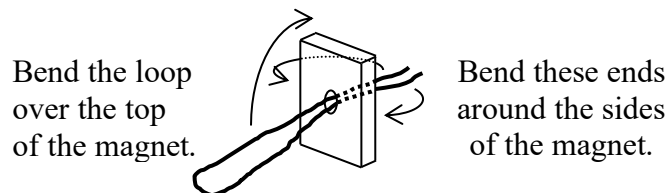

Fig. 1: Folding the wire around the magnet.
2. Insert the free ends of one of the wires into one of the magnets so that the ends stick out about 2-3 cm as shown in Fig. 1 below. Repeat this with the other wire and magnet.
3. With one of the magnets, fold the free ends of the wire around the magnet in opposite directions. Then fold the looped end of the wire over the magnet perpendicular to the way you folded the free ends as shown in Fig. 1. Repeat this with the other magnet.